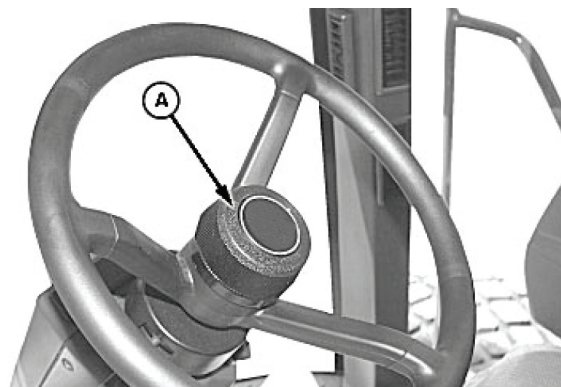

Figure 26. Steering Wheel
Loosen hub (A). Push or pull wheel to desired position. Tighten hub to lock (see Figure 26).